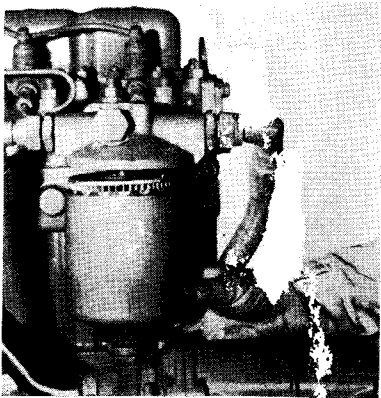

Fig. 16
3. Lower filter bowl clear (see fig. 16), remove element and discard.